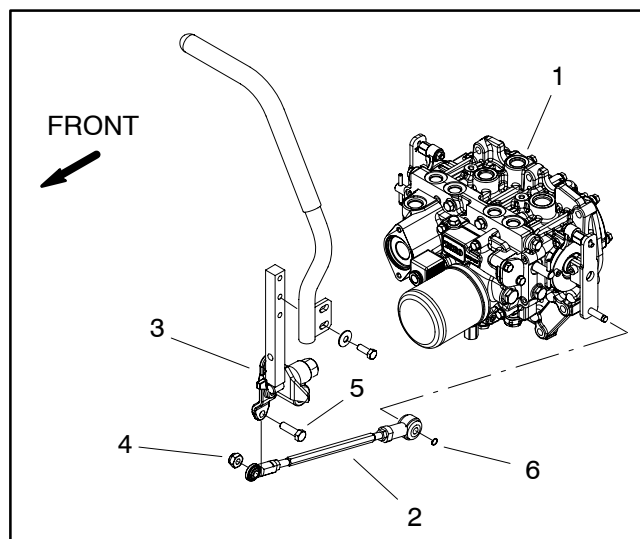

Figure 36
3. On both sides of machine, remove cap screw and lock nut that secures the pump control rod to the traction control hub (Fig. 36). Note that cap screw is installed from the outside toward the center of the machine.
13. Locate and note location of two (2) dowel pins from transmission and flywheel housing.
14. On both sides of transmission, remove retaining ring that secures pump control rod end onto transmission control arm (Fig. 36). Slide control rod from control arm.
4. Slide both pump control rods onto transmission control arms and secure with retaining rings (Fig. 36).
8. Secure transmission to the flywheel housing with seven (7) cap screws and lock washers. Make sure that shorter cap screw is properly positioned. Torque cap screws **400 in-lb (45 N-m)**.
10. On both sides of machine, secure the pump control rod to the traction control hub with cap screw and lock nut (Fig. 36). Note that cap screw is installed from the outside toward the center of the machine.